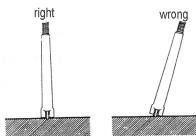

Fig.8
- * When the superficial temperature is taking, the top of temperature probe should have a close contact with the surface to be measured (see Fig. 8).